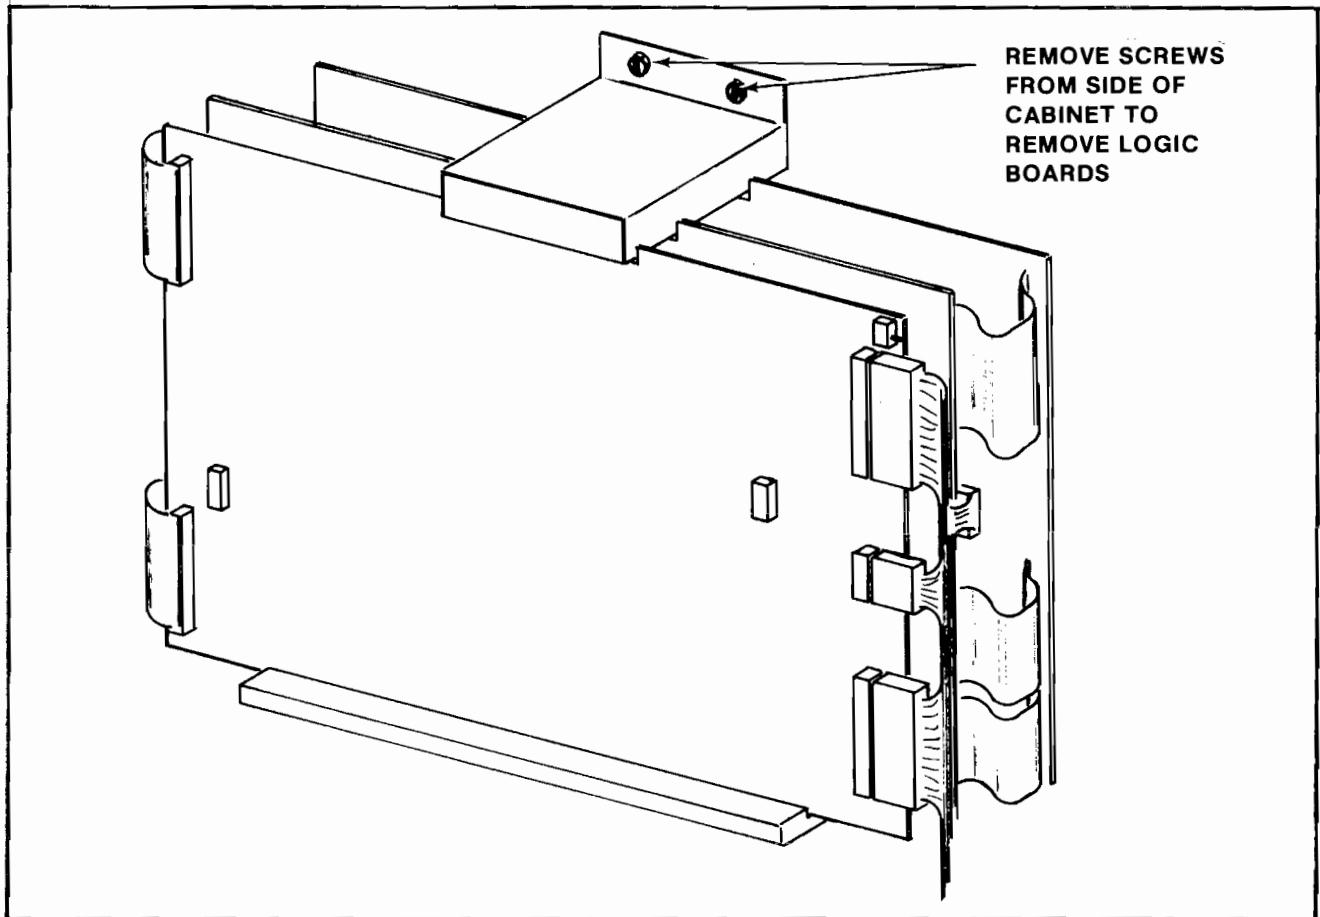

Figure 4-13 Removing P.C.B.'s from Card Rack
- To remove the P.C. boards from the card rack. See Figure 4-13.